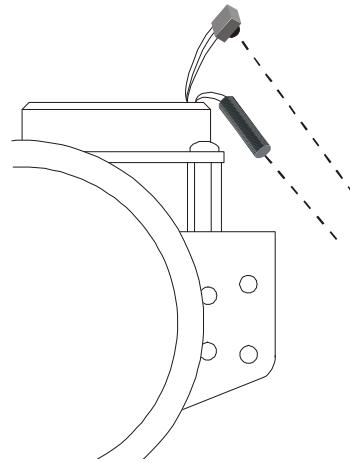

Figure 6.3: IR LED adjustment for edge detection.
- Point your IR pairs at the surface directly in front of the Boe-Bot as shown in Figure 6.3. The IR pairs should be pointed downward 45° from horizontal and outward 45° from the Boe-Bot's center line.